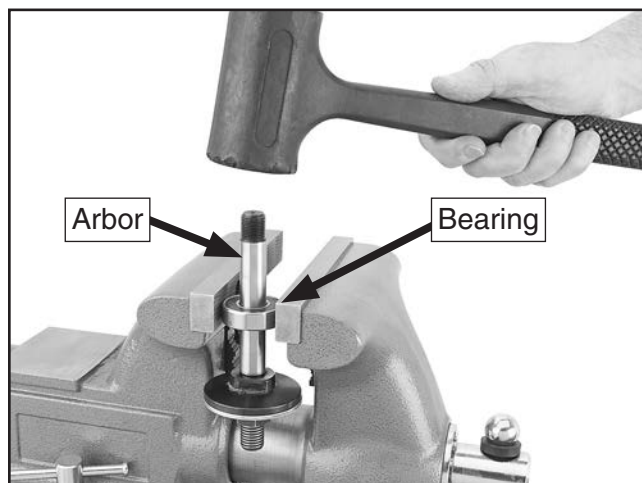

Figure 142. Removing arbor bearing.
18. Place arbor in a vise, as shown in **Figure 142**, with vise teeth clamping bearing, then use a soft rubber hammer to force arbor out of bearing.